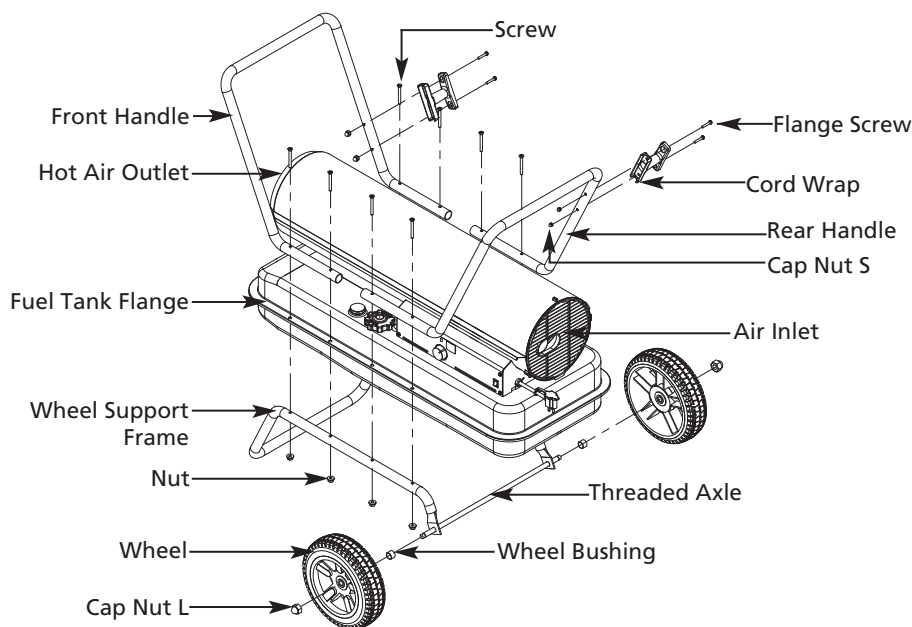

Figure 8 – Models 3VE50G, 3VE51G and 3VE52H Assembly
4. Position the Handles on top of fuel tank flange. Insert screws through handles, fuel tank flange and wheel support frames as shown in Figure 8 and attach nut finger tight after each screw is inserted.